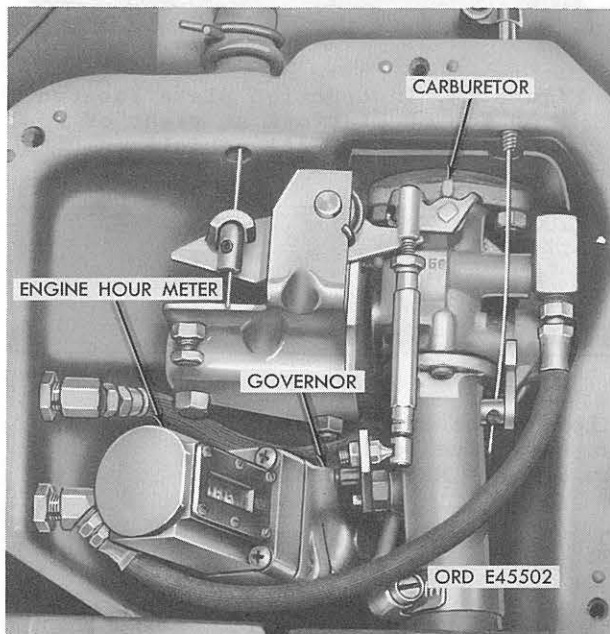

Figure 12. Location of carburetor, engine hour meter, and governor - M274A1 vehicle.
- (2) M274A1 vehicle. The carburetor (fig. 12) is a side-draft dia-
b. Governor (M274A1 Vehicle). The engine for the M274A1 vehicle is equipped with a mechanical governor (fig. 12) which provides positive maximum engine speed control. The governor is located on the accessory bracket. The operation of the governor is based on the centrifugal force of rotating weights. When engine speed increases, the weights fly outward, pulling with them suitable linkage to change the setting of the carburetor throttle opening.
d. Engine Hour Meter (M274A1 Vehicle). The engine hour meter for the M274A1 vehicle (fig. 12) is located on top of engine and is driven by the governor (fig. 12). The meter records the number of hours engine has been operated.